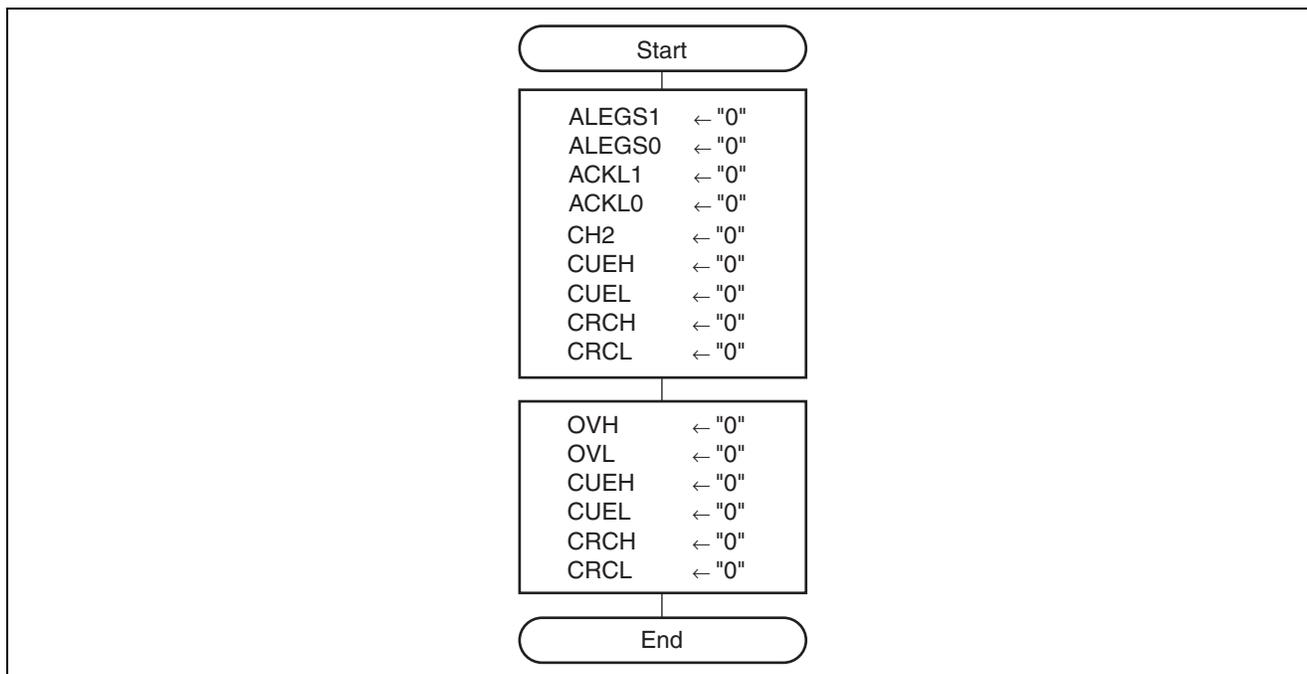

Figure 2.2 Example of Settings for 16-bit Asynchronous Event Counter
4. Figure 2.2 shows an example of settings when using the AEC as a 16-bit asynchronous event counter.
Since CH2 is cleared to 0 upon a reset, ECH and ECL operate as a 16-bit event counter after a reset. The AEC also operate as a 16-bit event counter by the settings shown in figure 2.2. The operating clock source is the asynchronous event input from the AEVL pin. When the next clock pulse is input after the count values for both ECH and ECL reach H'FF, ECH and ECL overflow, the OVH flag in ECCSR is set to 1, the count values of ECH and ECL are both reset to H'00, and counting-up is restarted. Upon occurrence of overflow, the IRREC bit in IRR2 is set to 1. At this time, if the IENEC bit in IENR2 is 1, an interrupt request is issued to the CPU.